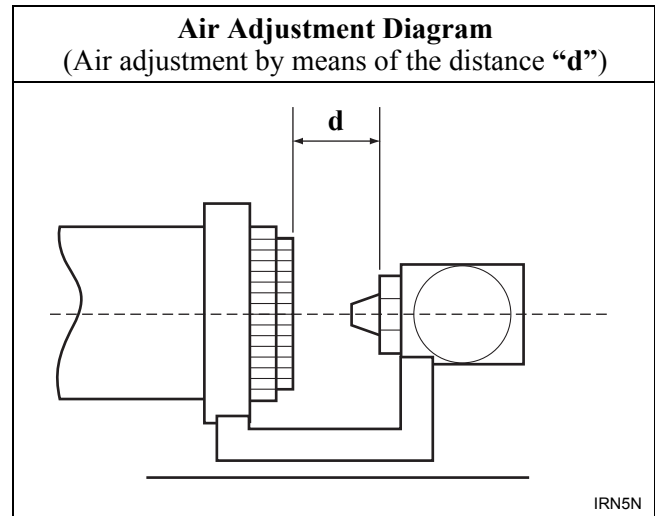

Figure 10
1. Refer to *Table 5*, *Table 6* and *Figure 10* to determine the adjustment and flow rate.